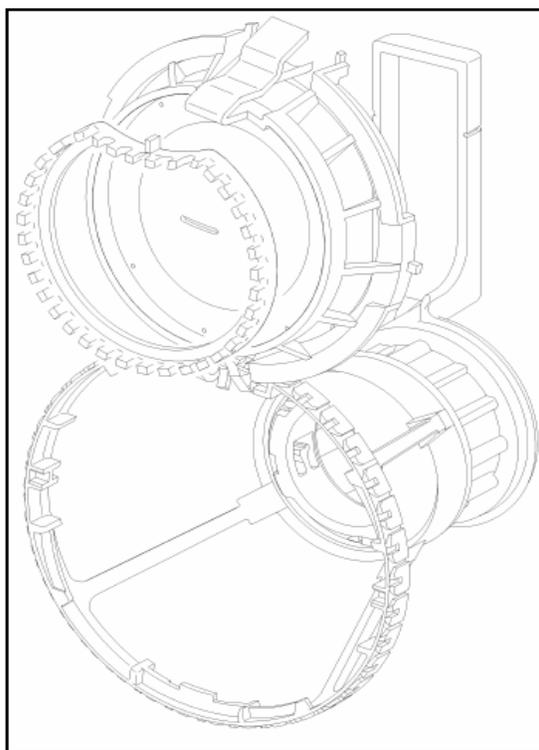

Figure 6-2: Microfine filter trap.
1. Insure the ring to the filter trap is properly fitted with the microfine filter housing, Mat No. 5672961 (refer to Fig. 6-2)